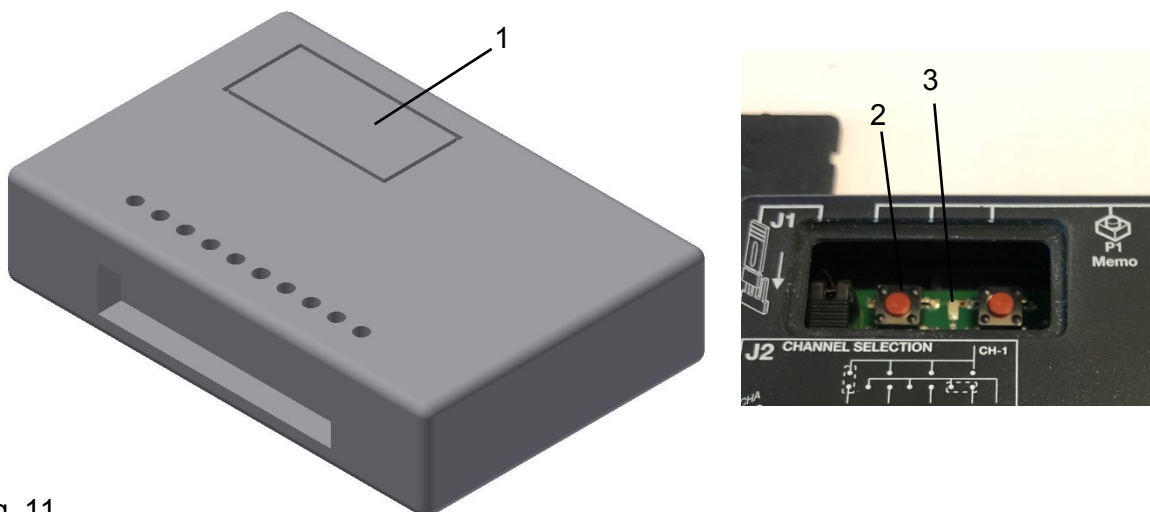
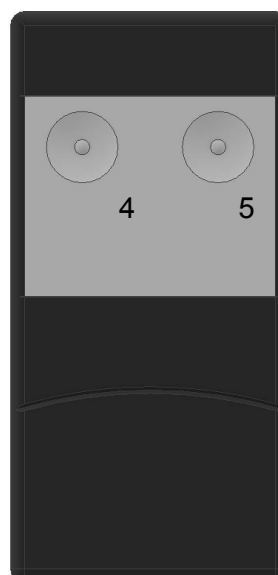

Fig. 11
Fig. 12
1. Remove the cover (Fig. 11 No. 1) on the radio receiver to access the programming buttons.
2. Press the left button (Fig. 11 No. 2). An LED (Fig. 11 No. 3) will then flash slowly.
3. While holding down the programming button, simultaneously press the first button on the handheld transmitter (Fig. 12 No. 4). The LED (Fig. 11 No. 3) will now flash rapidly once the handheld transmitter has been recognised.
5. To read in the second channel, repeat the process from step 2 using the second button on the handheld transmitter (Fig. 12 No. 5).
1. Remove the cover (p. 09 Fig. 11 No. 1) on the radio receiver to access the programming buttons.